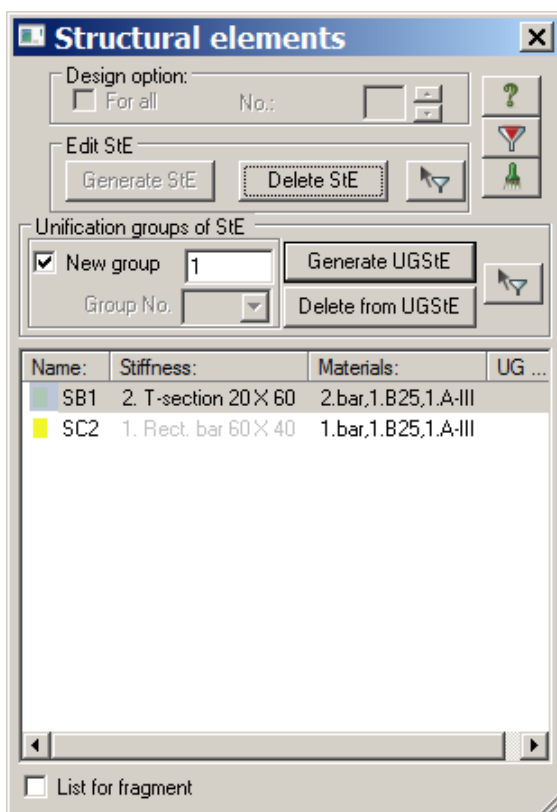

Figure 1.18. **Structural elements** dialog box
- ⇒ In the **Structural elements** dialog box (see Fig.1.18), under **Edit structural elements (StE)**, click **Generate StE** (structural element BEAM is assigned in order to consider that it is precisely continuous beam).